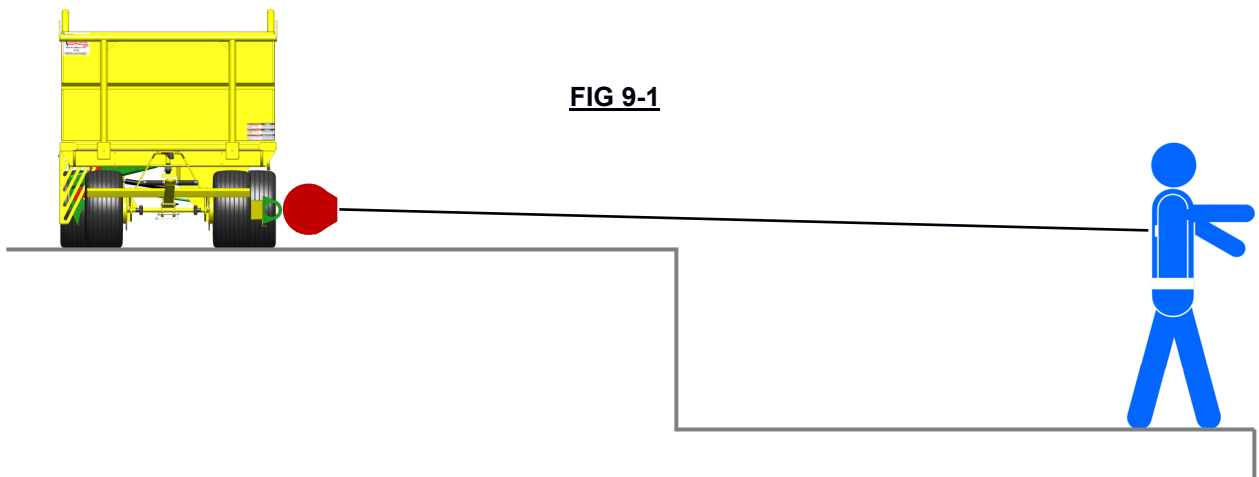

FIG 9-1
9.1.A The TriRex may be used for fall arrest and fall restraint in dissimilar height applications where worker(s) are located on a surface lower than the surface the TriRex is positioned on and when properly set up and used with an SRL ANSI approved for leading edge conditions. FIG 9-1